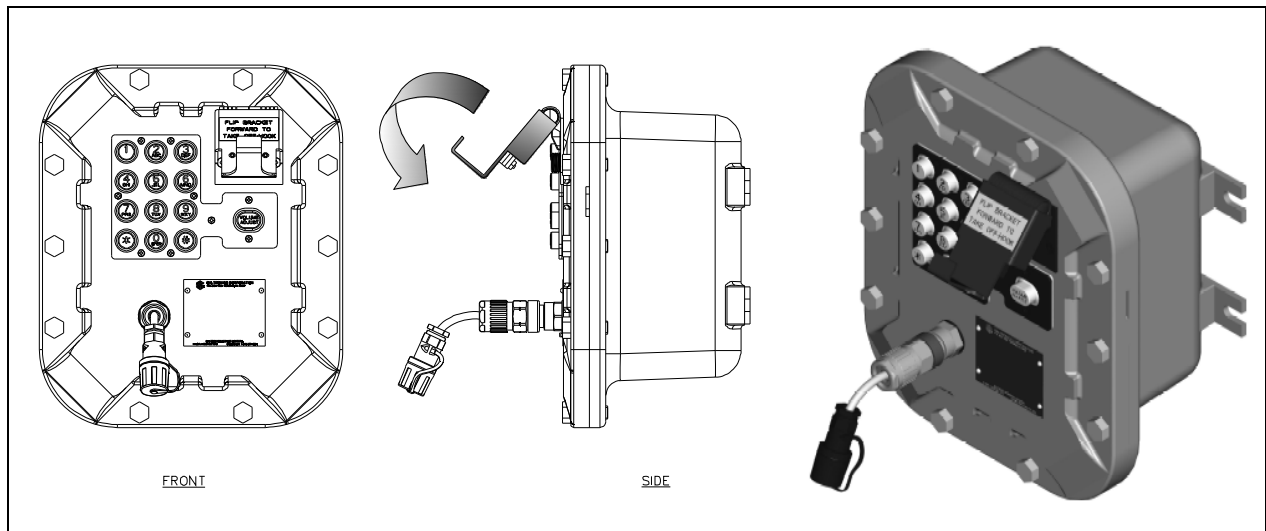

Figure 12. Models 352-103 and 352-104—Headset Disconnection
5. Flip the headset activation bracket to its vertical preset position to hang up. If applicable, place the headset on the bracket after completing the call. Otherwise, disconnect the flexible receptacle and plug by unscrewing the two ends, and pulling them apart. When disconnected, reattach the sealing cap to the end of the receptacle (see Figure 12).